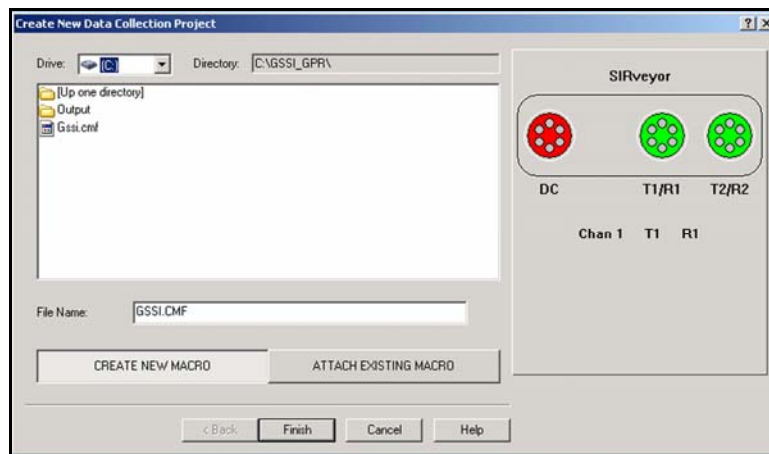

Figure 48: Attach a Macro or Create a New One.
- 7** This screen controls your collection parameters. Most of the time, the default settings will be fine. To access settings for different applications, click the small arrow in the Config Type (1) option.
- For example, if you are scanning a concrete slab to find reinforcing bars, choose CONCRETE. Then choose your antenna type under Config Name (2). An "X" after the name is used to denote a cross-polarized antenna that is used 90 degrees to its normal orientation. Common data collection parameters will be automatically set.
- 8 Check to make sure that Scans/ft (7) is adequate for your application. The general rule is the more scans/unit that you collect, the slower your collection speed, the larger your data file, and the more “stretched” your file will appear. When you are finished, click Next >.
- 9 The next window (Figure 48) will prompt you to either create a new macro or attach one that you have already created. A macro is nothing more than a saved list of data collection parameters. These parameters include: filters, time range and gain settings. These will vary from job to job, so it is possible you will have many different macros for different situations.